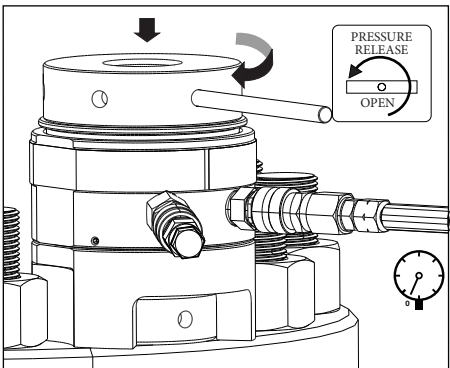

FIGURE 12, TURNING DOWN THE THREADED PULLER (AS REQUIRED)
10. Check the piston stroke. If necessary, turn down the threaded puller until the piston is fully retracted into the tensioner body. See Figure 12.
14. Verify that the oil pressure gauge indicates zero (0) psi/bar. If any pressure is indicated, release the hydraulic pressure by SLOWLY opening the pump pressure release (return to tank) valve.
22. Check the piston stroke at each tensioner in the circuit. If necessary, turn down the threaded puller until the piston is fully retracted into the tensioner body. See Figure 12.